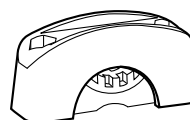

FIG. 3
- a. For cord sizes 0.50 to 0.75 - in diameter (including flat cables): Use Strain Relief Clamp with insert oriented as shown in Fig.3.